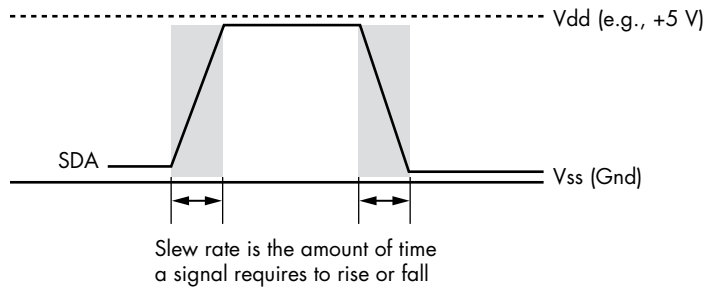

Figure 13-8: Slew rate
Bit 4 of the IOCON register (DISSLW) controls the I²C SDA slew rate. When enabled (0), the slew rate control reduces the speed at which the SDA line rises from low to high or falls from high to low (see Figure 13-8). By default, this bit is 0, which reduces the signal's rise and fall time.